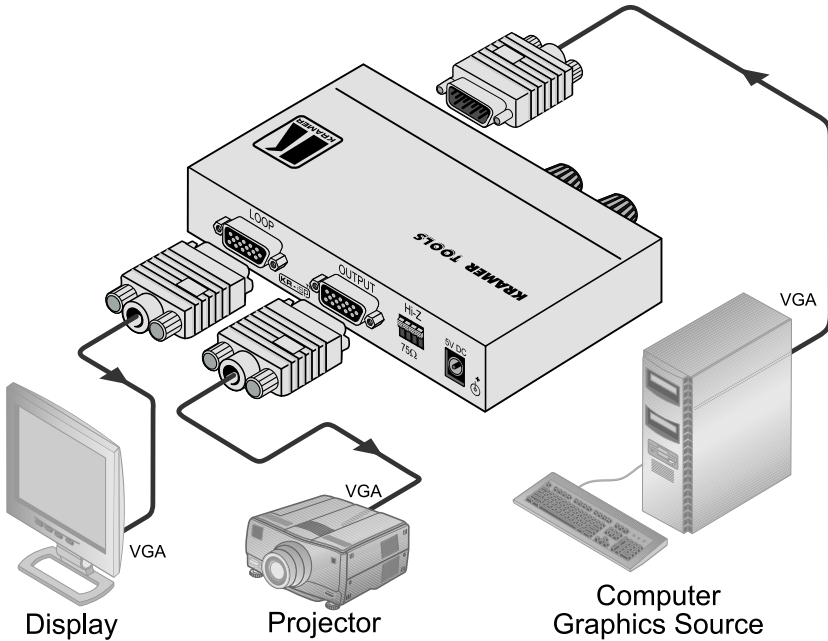

Figure 2: Connecting the VP-210K UXGA Line Amplifier
| Figure 2: | Connecting the VP-210K UXGA Line Amplifier | 6 |
To connect your **VP-210K UXGA Line Amplifier**, as shown in the example in *Figure 2*, do the following1:
1. Connect a computer graphics source (for example, a computer) to the INPUT 15-pin HD (F) connector.
2. Connect the OUTPUT 15-pin HD (F) connector to an acceptor (for example, a projector).
3. Connect the LOOP 15-pin HD (F) connector to an acceptor (for example, a local display).
4. Connect the 5V DC power adapter to the 5V DC socket and connect the transformer to the mains electricity (not illustrated in *Figure 2*).